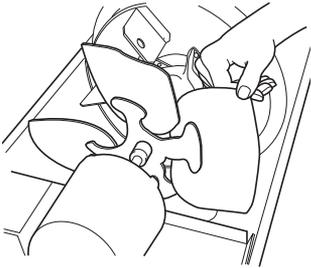

Figure 13 - Turning Fan with Hand
3. Turn fan with hand (see Figure 13).